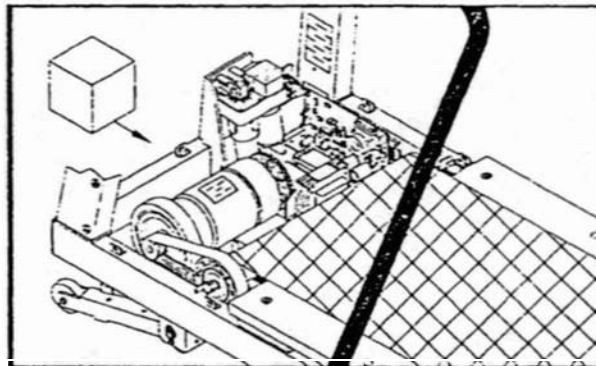

Fig.2
2. Put an object under the machine to raise the front of equipment. (see Fig.2)